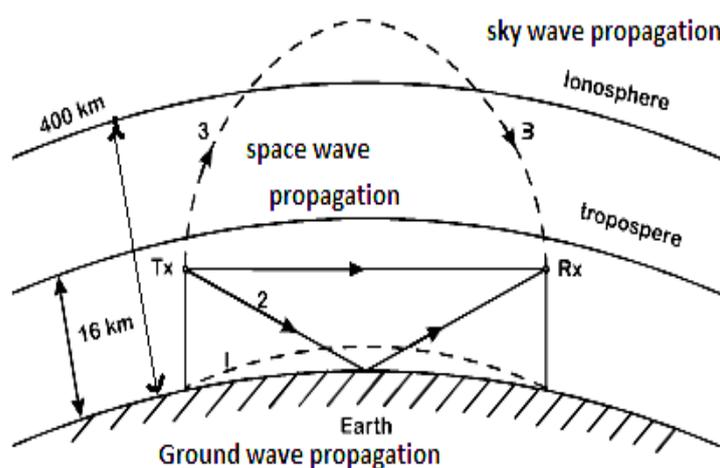

Fig.1.36 Various modes of radiowave propagation
In sky wave propagation radio wave is reflected back to earth from ionized region in the upper atmosphere called ionosphere as shown in fig. 1.36 (path (3)).